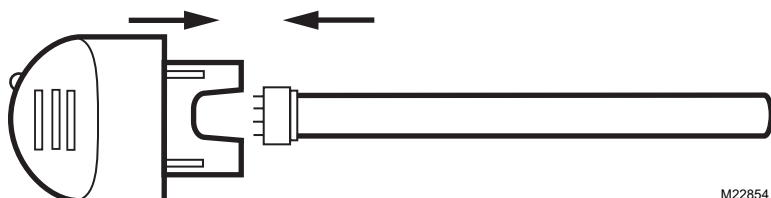

Fig. 11. Replace lamp glass in SnapLamp™ handle.
6. Insert the new lamp glass into the SnapLamp™ handle by aligning the key and pushing straight together. See Fig. 11.